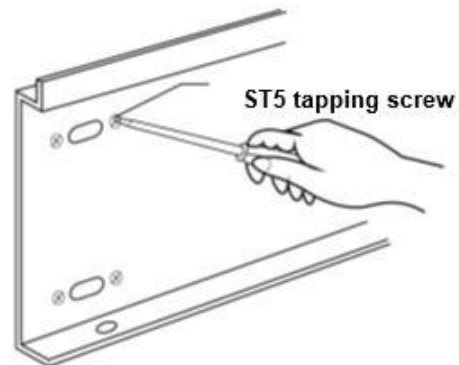

FIG 7
4.3 If installing it on wood plank wall or similar walls, please refer to the installation dimensions to determine the positions where fixing screws. Fix the mounting plate on wall with ST5 tapping screws. See FIG 7 please.